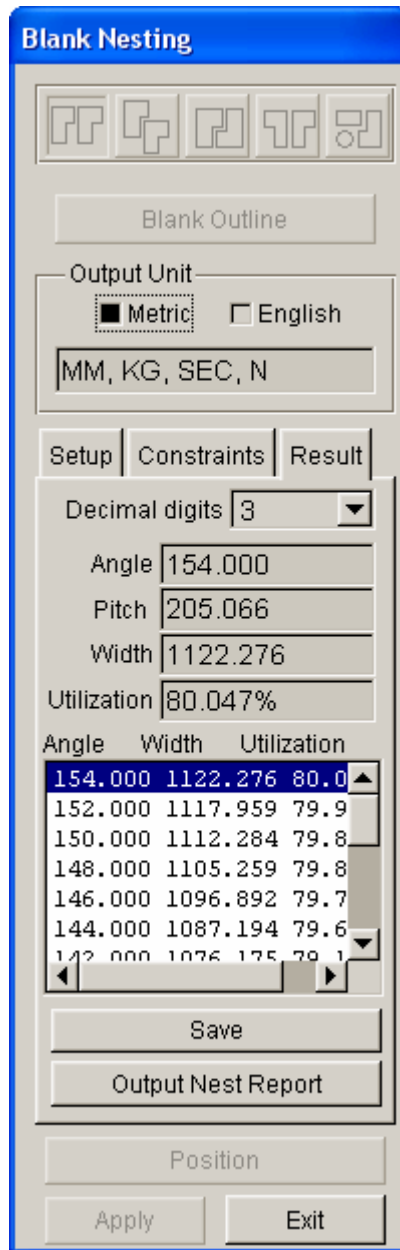
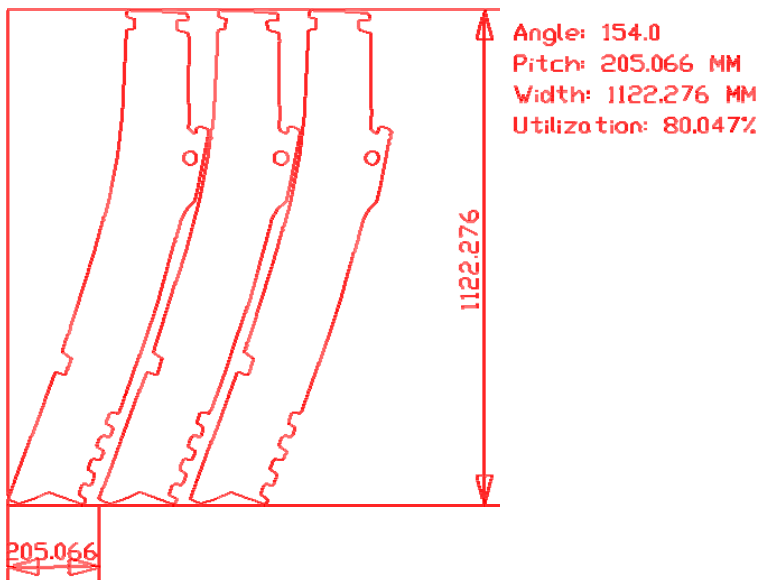

Figure 2.43: Result page
Figure 2.44: Nesting layout
6. Click on the **Apply** button to begin nesting calculation. The **Result** tab in **Blank Nesting** dialog box is displayed (shown in Figure 2.43). The nesting result is shown in Figure 2.44.